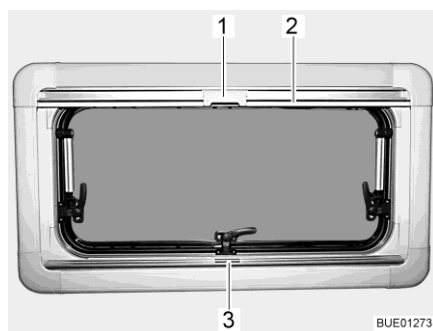
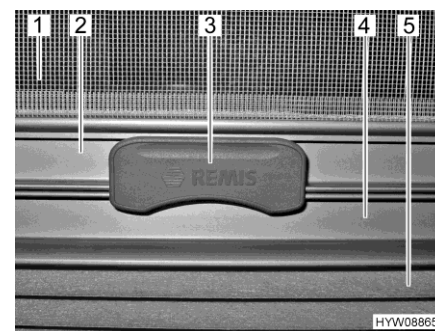

Fig. 14 Hinged window
Fig. 15 Catch
Roman shade The Roman shade (Fig. 15,5) is located in the lower blind box.
Closing: ■ Seize the Roman shade by the centre of the holding bar (Fig. 14,3 and Fig. 15,4), pull it from the bottom to the top and release it at the desired height. The Roman shade will stay at this height.
Insect screen The insect screen (Fig. 15,1) is located in the upper blind box.
Closing: ■ Pull the insect screen down by the holding bar (Fig. 14,2 and Fig. 15,2), until it touches the holding bar of the Roman shade (Fig. 15,4).
■ Clip the catch (Fig. 14,1 and Fig. 15,3) on the insect screen into the holding bar of the Roman shade. When the catch is locked, the Roman shade and the insect screen can be adjusted together.
Opening: ■ Push the catch (Fig. 15,3) on the insect screen upward.
■ Move the insect screen back slowly on the holding bar (Fig. 14,2).